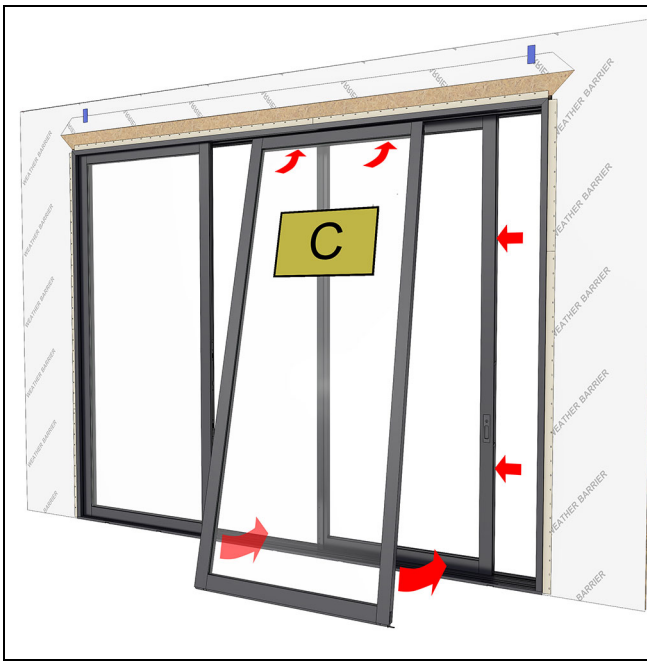

Figure 120 OOX configuration shown.
11. Install the (C) stationary panel, making sure the panel overlaps the operator panel. See Figure 120.